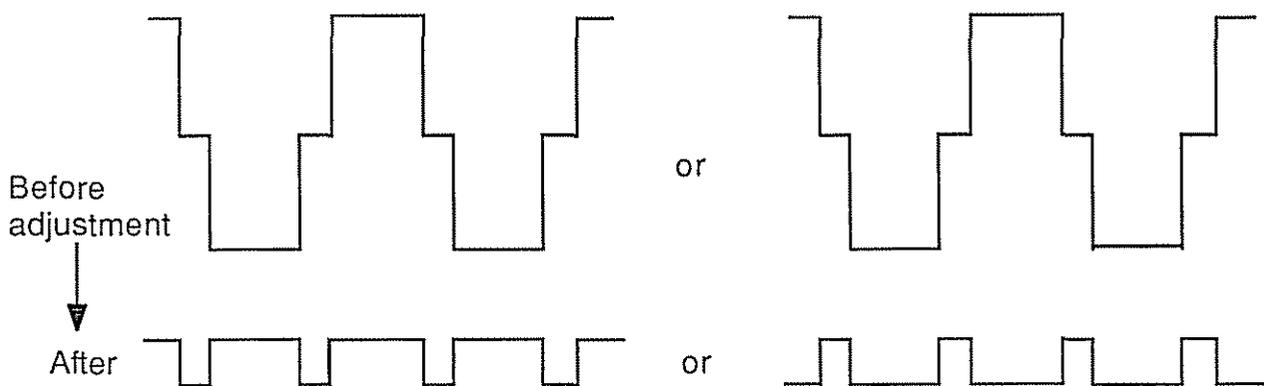

Fig 4.8
3. Open  $SW_V$  and close  $SW_A$  adjust 'BALANCE CURRENT',  $R_{33}$ , to minimise square wave — this may result in a waveform sequence as in fig 4.8.